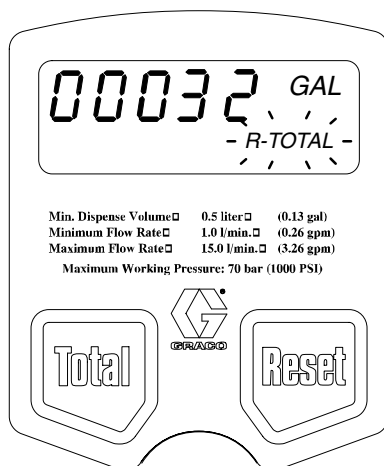

Fig. 5
2. With **R-TOTAL** blinking and the current resettable total displayed, as shown in Fig. 5, do **ONE** of the following two options: